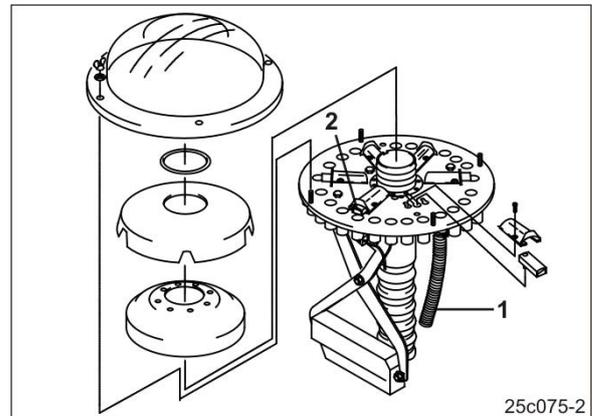

Fig. 143
- The seed line tubes (Fig. 143/1) of the tramline coulters must be fixed to the distributor head openings, which can be closed by the sliders (Fig. 143/2).
To create two tracks, it is possible to close up to 6 of the slider (Fig. 143/2) openings per track in the distributor head
- Deactivate unrequired sliders (Fig. 143/2).